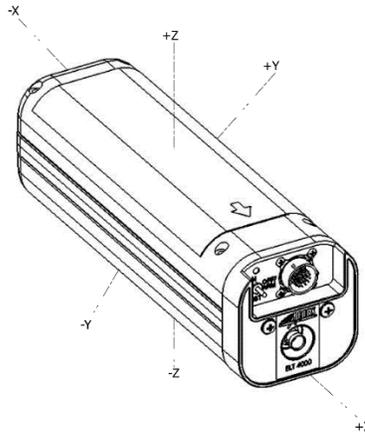

Figure 6 ELT Orthogonal Axes
- 1) This procedure outlines the steps required to test the five-axis G-switch installed in ARTEX Helicopter Model (HM) ELTs.
- 2) Testing of the primary and five axis G-switch can be accomplished by simulating a rapid deceleration in the required direction of the G-switch. Although the “football throw” test as outlined in item 4a is sufficient to test the forward G-switch, a sturdy padded surface, such as a padded chair or foam-covered workbench, is required to simulate the G-force required to trigger the remaining axes. The padding of the surface is required to prevent damage to the ELT.
- 3) **NOTE:** The fixed wing G-switch is triggered by approximately 2.3 Gs of deceleration (axis +X in Figure 6), whereas the five-axis G-switch is triggered by 12.5 Gs of deceleration (axes -X, -Y, +Y, -Z, and +Z in Figure 6), and requires a significant force to activate. The higher G-rating precludes inadvertent activation in helicopter applications but will allow for activation during a mishap.
- 5) Utilizing the sturdy padded surface, hold the ELT 10 inches (26.1 Centimeters) above the test area and thrust down forcefully maintaining a level axis into the pad to test the -X axis (see Figure 6).
- 6) Repeat step 2 for the -Y, +Y, -Z, and +Z axes (see Figure 6).